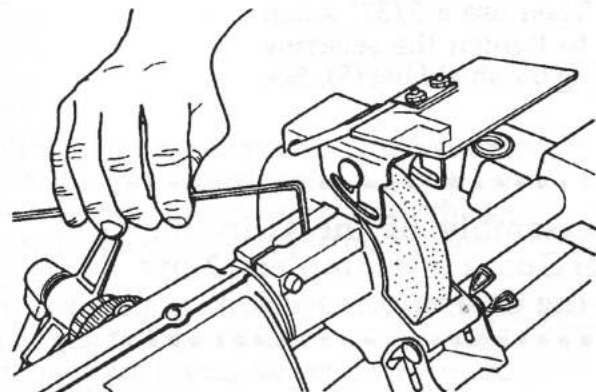

Fig. 21
**22.** Use a 5/32" Allen wrench to tighten the arbor setscrew (14), as in Fig. 21.